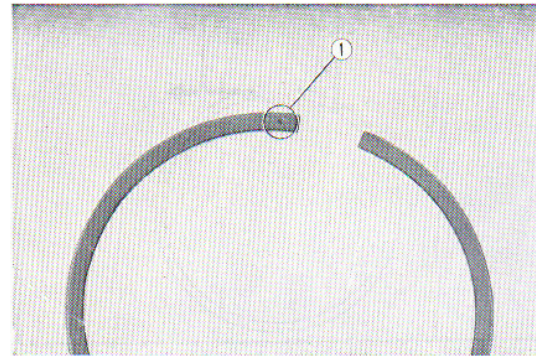

Fig. 3.72 Identifying upper and lower surfaces of the piston ring
① Oil filter cover
② To upper crank case
③ From lower crankcase
④ Oil filter cover
⑤ 57.8×6.2 O-ring
⑥ Oil guide metal spring
⑦ Oil guide metal
⑧ Oil guide metal stop ring
- b. The rings must not be installed upside down; this will cause oil pumping. The top side of the ring is etched at the end with the initial of the manufacturer's name. (Fig. 3.72)